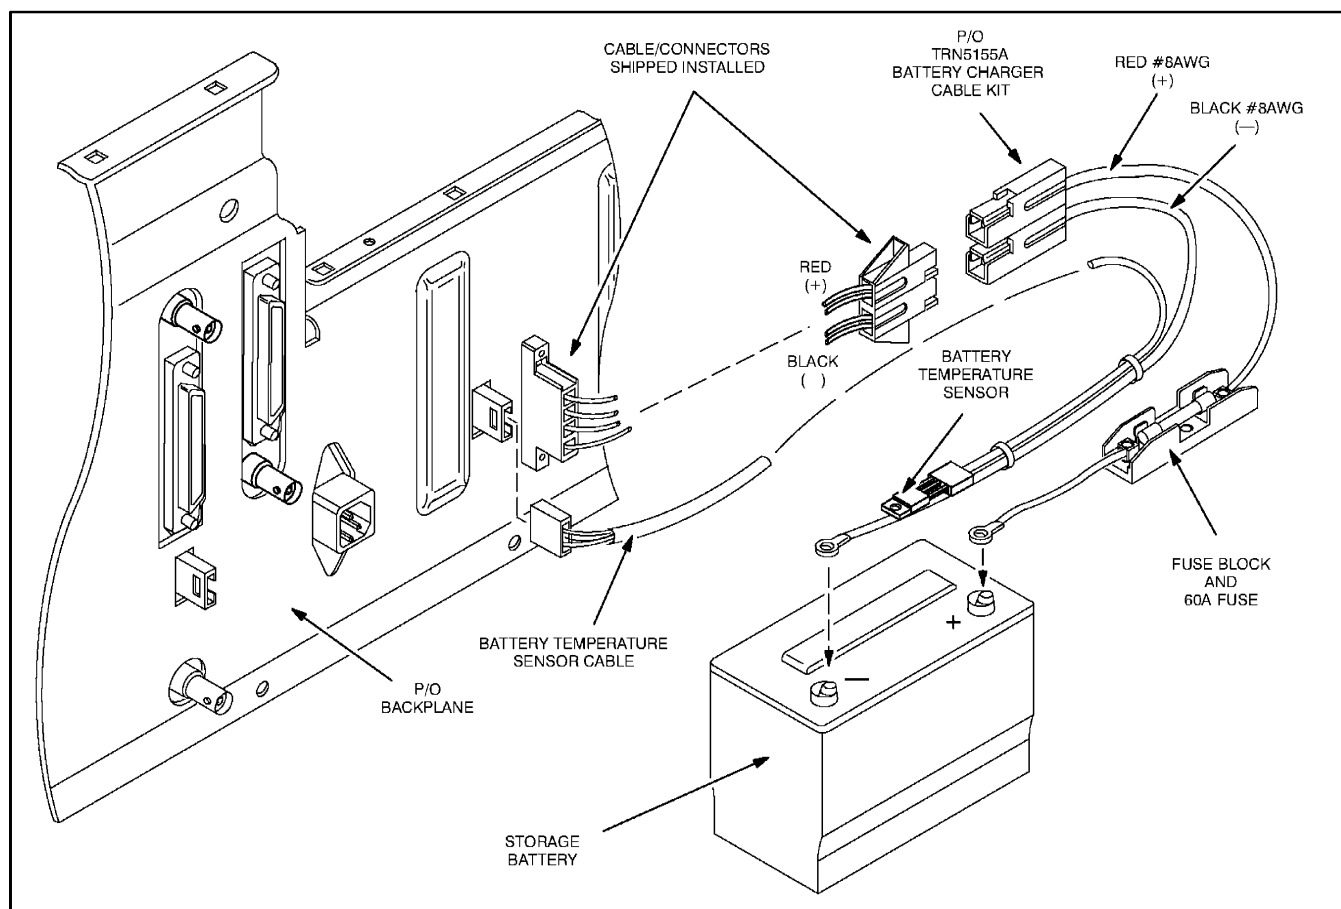

Figure 15. Making Connections to Storage Battery
- **Charger/Revert Cable** — the station is shipped with a 4-wire cable terminated in a heavy duty 2-position connector; cable kit TRN5155A (shipped with station) contains mating connector, two 10' lengths of red and black #8 AWG gauge wires, a fuse block and 60A fuse, and crimp-on ring lugs. Make connections to the storage battery as shown in Figure 15.
- **Battery Temperature Cable** — thermistor (TKN8786A) and cable (TKN8732A) are shipped with charger-style power supply); cable with three wires carries a variable resistance signal from the thermistor which is mounted in close proximity to storage battery; resistance is proportional to battery temperature and is used by diagnostic circuitry in power supply module. Make thermistor connections as shown in Figure 15.